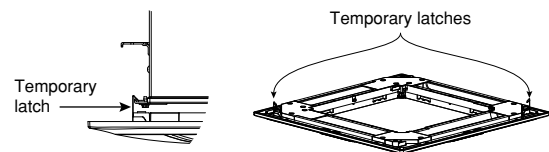

Fig. 6-17
- (1) Hang the temporary latches on the inside of the ceiling panel to the receptacle on the unit to temporarily attach the ceiling panel in place. (Fig. 6-17)